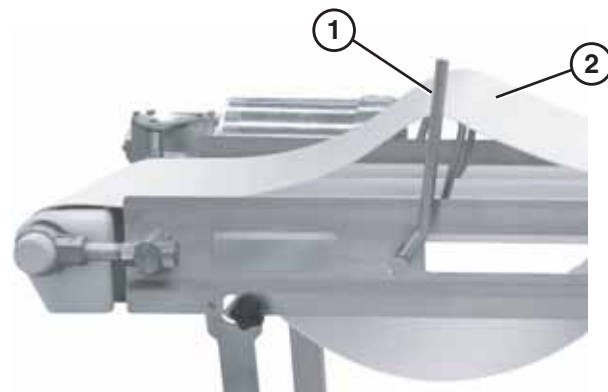

Figure 39
3. Use the lifter handle (Figure 39, item 1) to raise the belt (Figure 39, item 2).